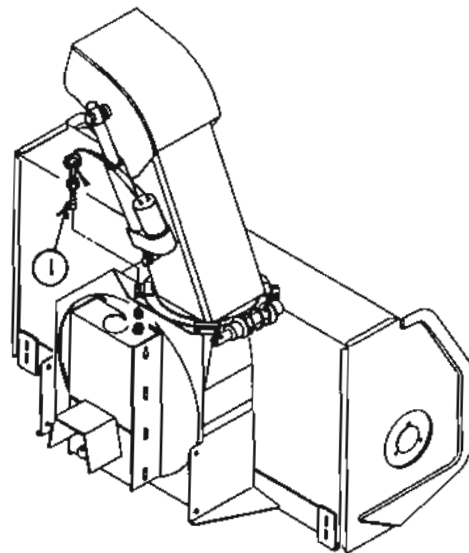

FIGURE 20
- d) Replace existing bolt in one hole of closest retaining plate with the 1/4" x 4" eyebolt (fig.20, item 1) and retain with 2 nuts and lockwasher.
- n) Connect other ends of the 102" double wire to the electric motor, routing the wire through the eyebolt (fig.20, item 1). Cut this wire at a convenient location for snowblower removal. Install the wire connectors with one male and one female connector to the motor half of the wire. This will allow the snowblower to be easily dismantled.